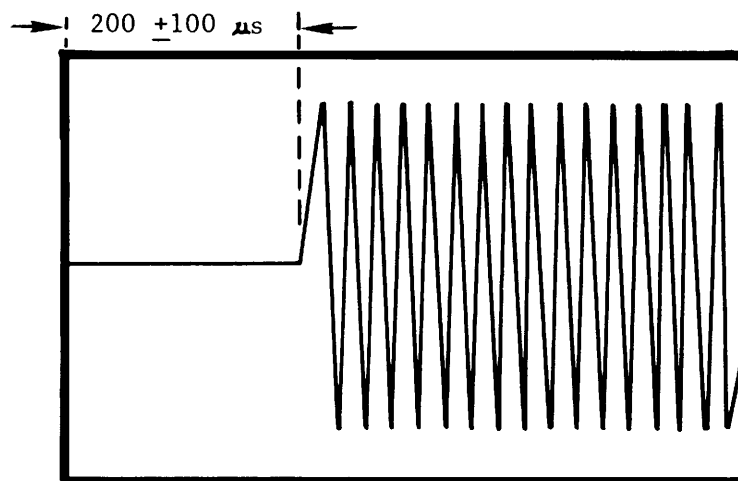

Figure 5-8. Index-To-Data Alignment Pattern
- 4) Adjust the sensor for a Start-of-Trace-to-Data gap of 200 microseconds ± 100 microseconds. See Figure 5-8. Tighten the sensor retaining screw and recheck the data pattern for proper tolerance.
- 3) Step the head to Track 1 by depressing the number "2" key. The Data Pattern on the oscilloscope should start 200 +100 microseconds from the start of the trace (Figure 5-8). If this condition is not met, perform the following adjustment: